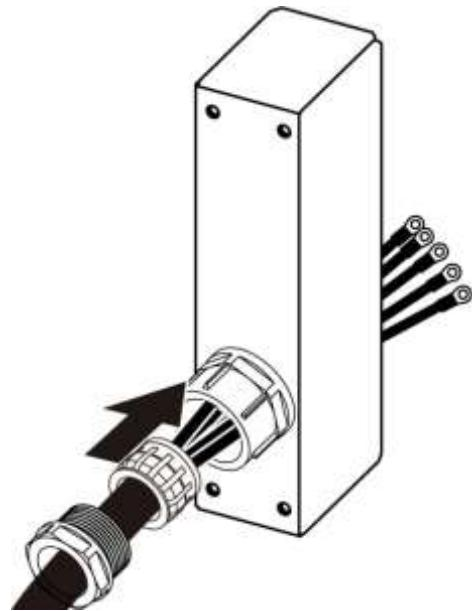

Figure 2-5 Assembling 62050P Inputer Terminal Safety Cover - 1
- a. Remove the anti-pulling device and then insert the wires to pass through the anti-pulling device and safety cover as Figure 2-5 shows.